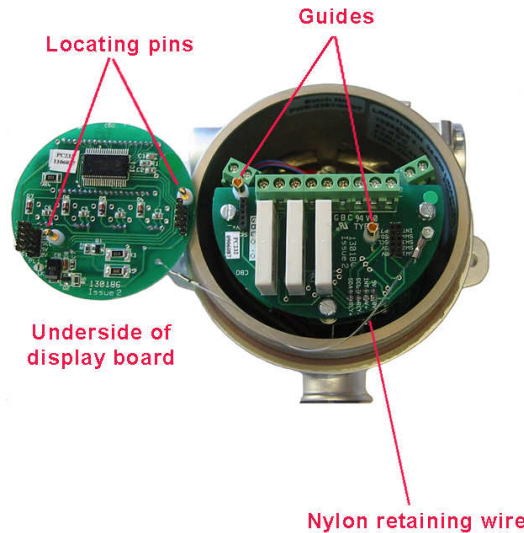

Figure 8: Replacing the Display Board
- a) Replace the top display board using the locating pins on the underside of the board to ensure that it makes connection with the remainder of the electronics - see Figure 8.